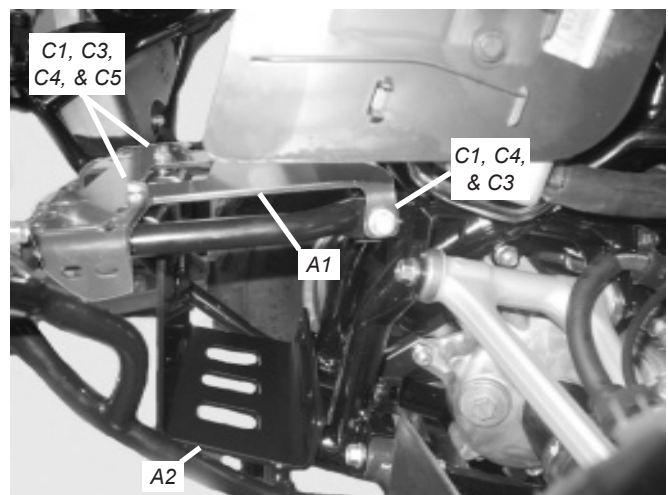

Figure 3 Install Upper and Lower Brackets
3. Place the lower mounting bracket (A2) inside the front tube frame with the slotted holes facing down and the shorter back flange facing the rear of the vehicle as shown in figure 3.
4. Place the upper mounting bracket (A1) over the two horizontal tubes of the front tube frame with the two rear flanges covering the openings to the 8mm bolts removed in step 2. Attach the upper mounting bracket to the tube frame using two 8mm dia x 25 mm long bolts (C1), 5/16" dia lock washers (C4), and 5/16" dia flat washers (C3) as shown in figure 3. The lock washer should be placed between the head of the 8mm dia bolt and the flat washer. Tighten the bolt to a recommended torque of 14 ft-lb (19 N-m).
5. Attach the lower mounting bracket (A2) to the upper mounting bracket (A1) using two 8mm dia x 25mm long bolts (C1), 5/16" dia flat washers (C3), 5/16" dia lock washers (C4), and 8mm dia regular nuts (C5) as shown in figure 3. The washers should go on the nut side, with the lock washer placed between the nut and flat washer. Tighten the nut and bolts to a recommended torque of 14 ft-lb (19 N-m).